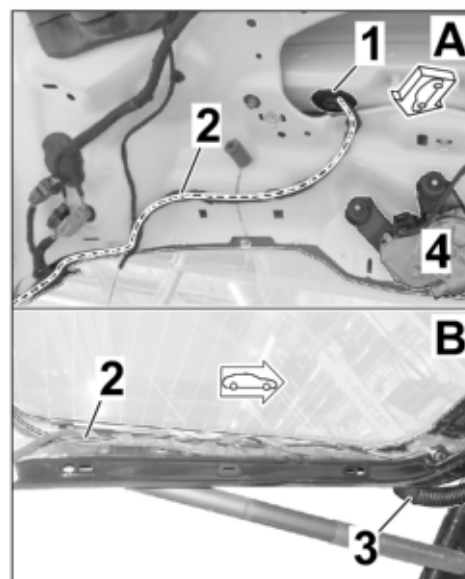

Figure 18
- Route VT/WH 0.5² line (socket contact) along the existing line to the left side of the rear window frame. Sport Turismo: ⇒ Figure 18 -A-
- Route VT/WH 0.5² line further along the left rear window frame to the grommet on the (left) tailgate hinge. ⇒ Figure 18 -B-